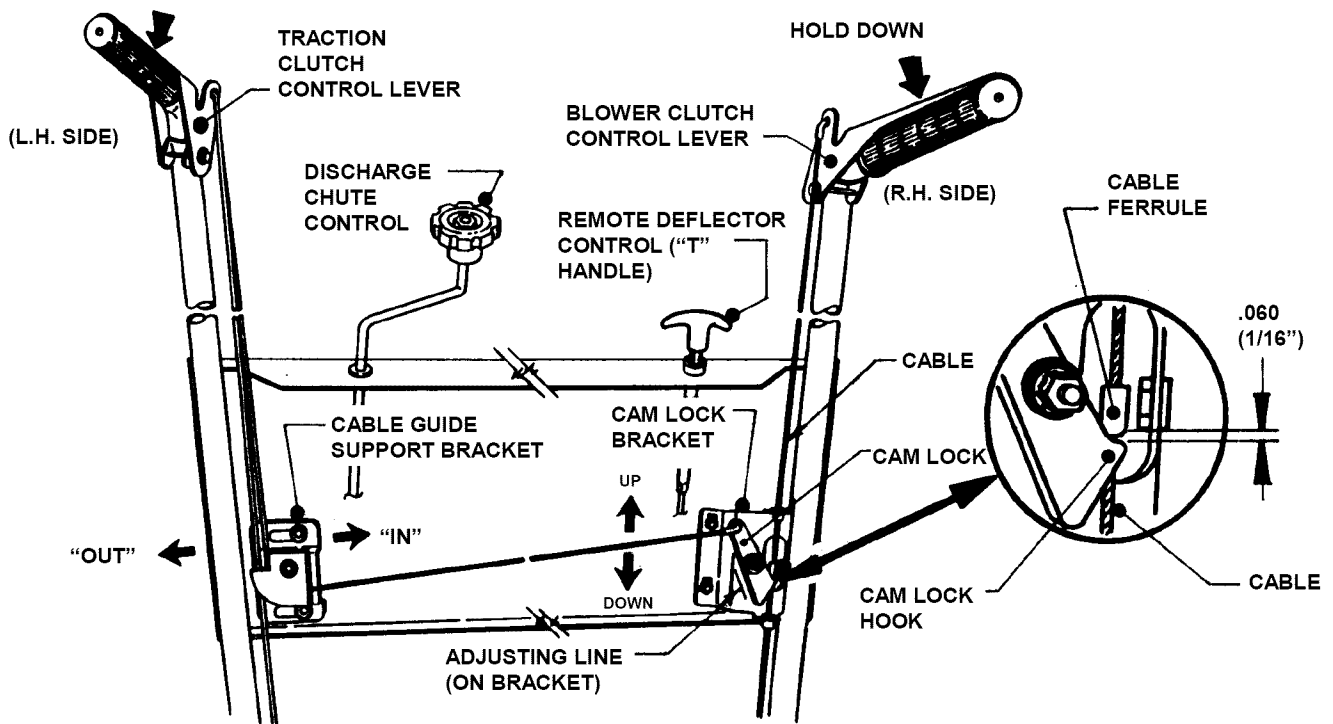

FIGURE 4.9
1. Hold the wheel drive control lever down against the handle. See Figure 4.9.
5. Check the position of the cable ferrule in relation to the cam lock. The ferrule must be located  $1/16"$  (.060) above the hook of the cam lock. To adjust, loosen the three nuts that secure the cam lock bracket. Slide bracket up or down until correct measurement is achieved. Retighten nuts securely. See Figure 4.9.